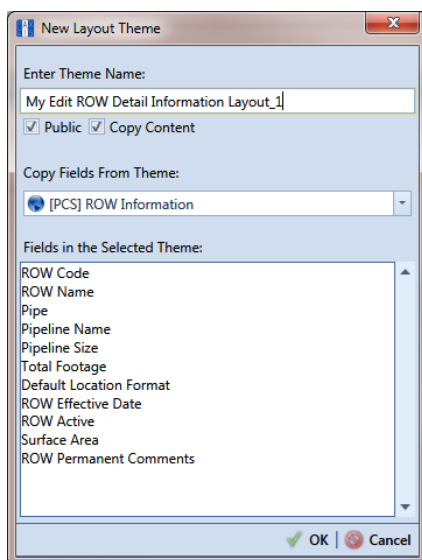

Figure 4-33. New Layout Theme
- Click the **Customize** tab  then  **Add** to open the *New Layout Theme* dialog box. The following figure shows an example when adding a layout for the *Information* grid (Figure 4-33).